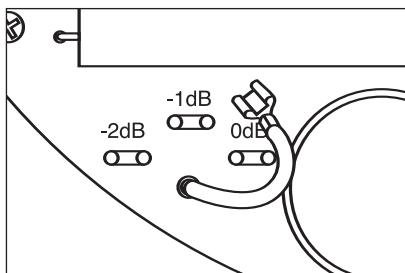

Figure 21 Setting the bass jumper.
14. Setting the bass jumper. Listen to a well-recorded piece of music at the user's favorite listening position. Listen for bass boominess, particularly when the speaker is placed near a corner. Remove the speaker by grasping the tabs and rotating counter-clockwise. Adjust the bass jumper (-1dB, -2dB) accordingly. (See Figure 21).